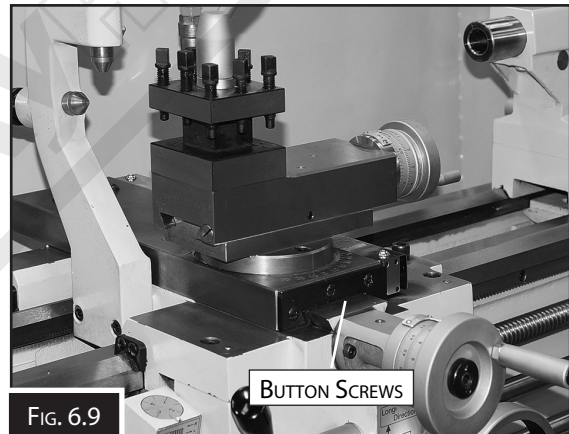

FIG. 6.9
2. Undo the three button head screws that hold the slide wiper and remove the rubber wiper. (Fig. 6.9)